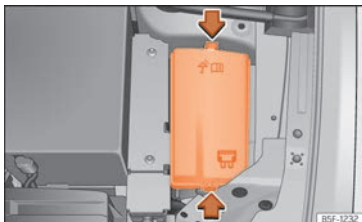

Fig. 51 In the engine compartment: fuse box cover.
- Press the locking tabs to release the fuse box cover » **Fig. 51**.